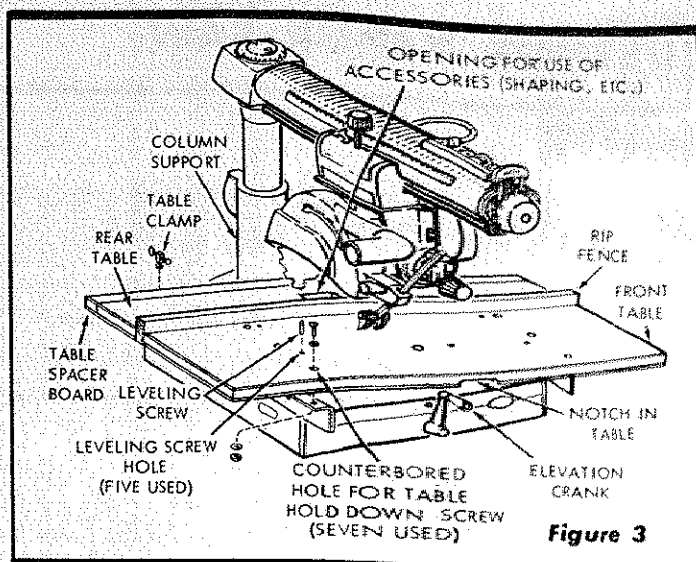
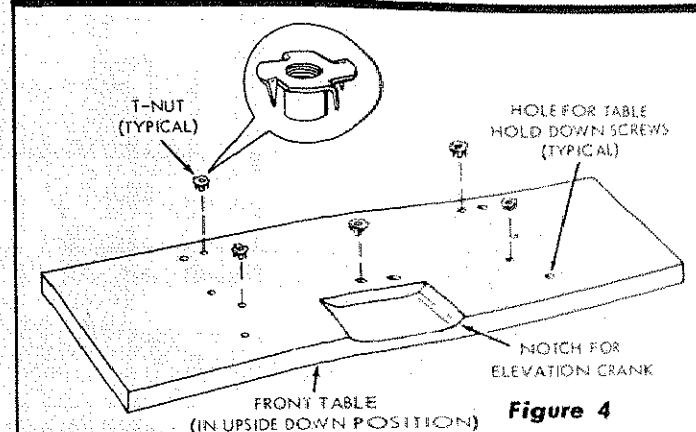

Figure 3
Figure 4
The saw should be placed on a suitable sturdy work bench and the base positioned so that the elevation crank is free to rotate. (See figure 3.) The base of the saw must be mounted flush to a flat surface on the work bench to prevent distortion of the saw base. The nuts, screws, and washers which attach the wooden shipping skids to the saw base may be used to secure the saw base to the work bench.
1. Place the large table board upside-down on floor. The bottom side has a notch (cutout) for clearance of elevation crank. (See figure 3.) Distinguish between the five through-bored (leveling screw) holes and the seven counterbored holes. Drive T-nuts into the five through-bored holes. (See figure 4.)
2. Place the large table board on channels with cutout table notch forward and down as shown in figure 3.
2. Insert a set screw (leveling screw) into each of the five leveling, T-nuts. (See figure 4.) Insert screws from the top side until they just touch the top of the base.
13. If the table is high at the center, lower it by tightening the screw (6). When the table is adjusted parallel to the radial arm, rotate the set screw (5) clockwise until it bottoms on the base. This will serve as a lock for the adjustment of screw (6).
14. Place the rip fence in vertical position behind front table board. (See figure 3.)
17. Install the table clamps at locations shown in figure 3 and tighten them securely against the edge of table spacer.